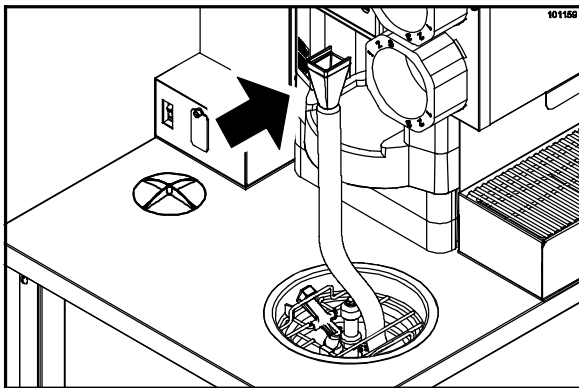

Figure 89
37. Slide the cleaning hose adaptor onto the dispensing head. Wedge the other end of the line into the rinse station grate. (See Figure 89.)